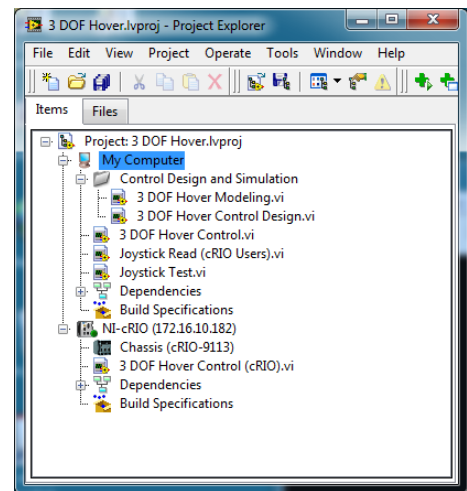

Figure 4.1: 3 DOF Hover LabVIEW Project
2. Open the *3 DOF Hover.lvproj* LabVIEW project, shown in Figure 4.1.